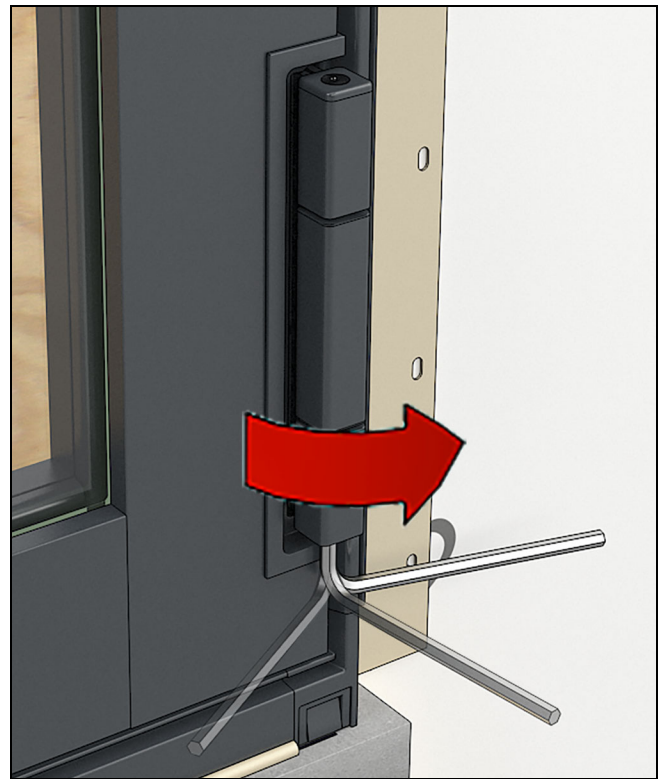

Figure 65
3. On the bottom of each hinge use the 6mm hex wrench to adjust the hinge height. Turning the set screw clockwise will raise the hinge. See Figure 65.